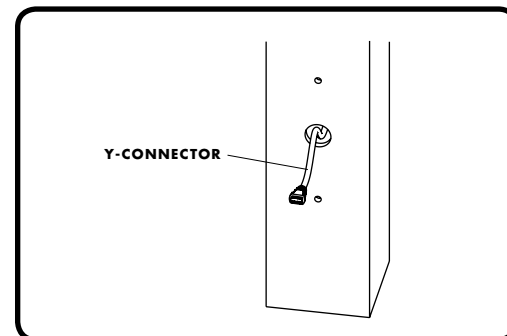

FIGURE 3
7. Feed excess wiring back into post or wall, leaving approximately 4" of the Y-connector exposed. [**FIGURE 3**]